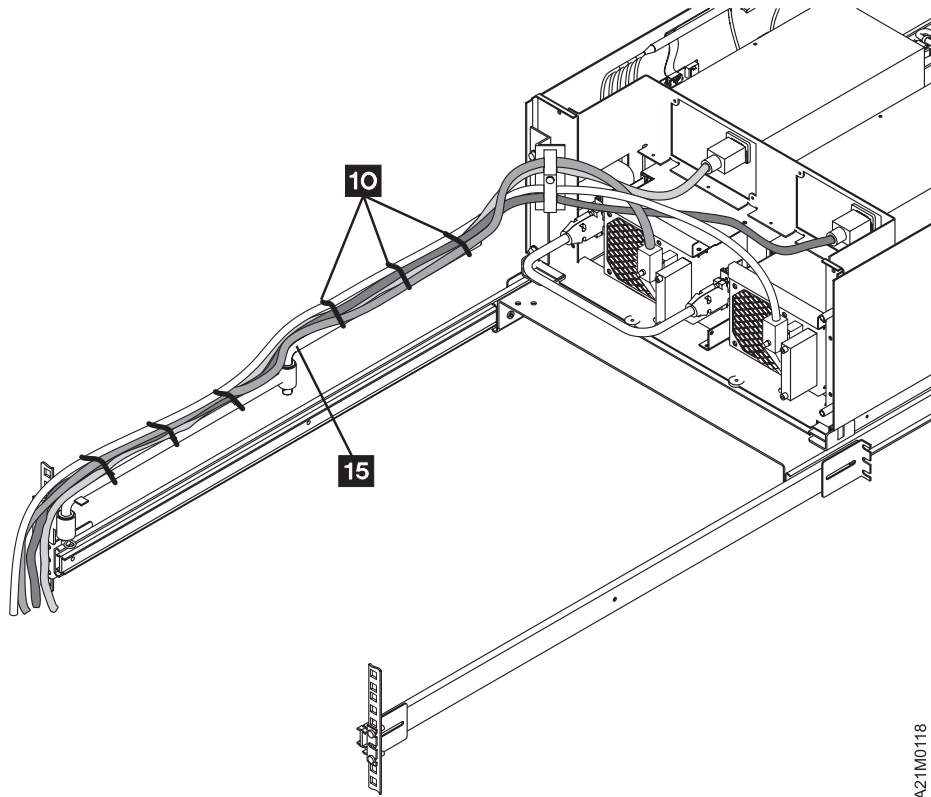

Figure 48. 3570 and Articulated Arm Extended for Model B22 Dual-Drive Dual-Host
- \_\_\_ Step 7. See Figure 48 on page 88. Push the 3570 completely forward so it will lock into position, then extend the articulated arm to its full length toward the 3570 library.